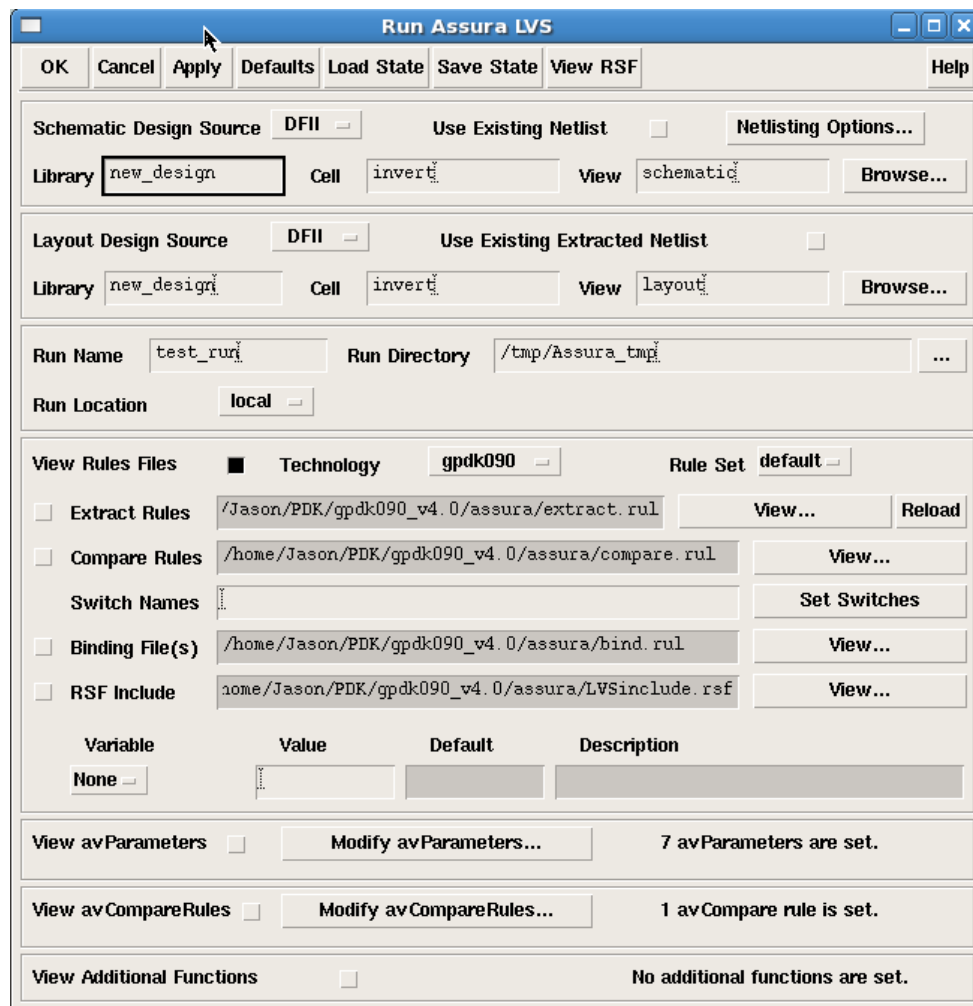

Fig.22
2. Fill in the “Assura run directory” and select the “Technology” field to “ssura_tech” (Fig. 22) in Assura LVS window. You can also set the Assura LVS switches and other parameters if needed.